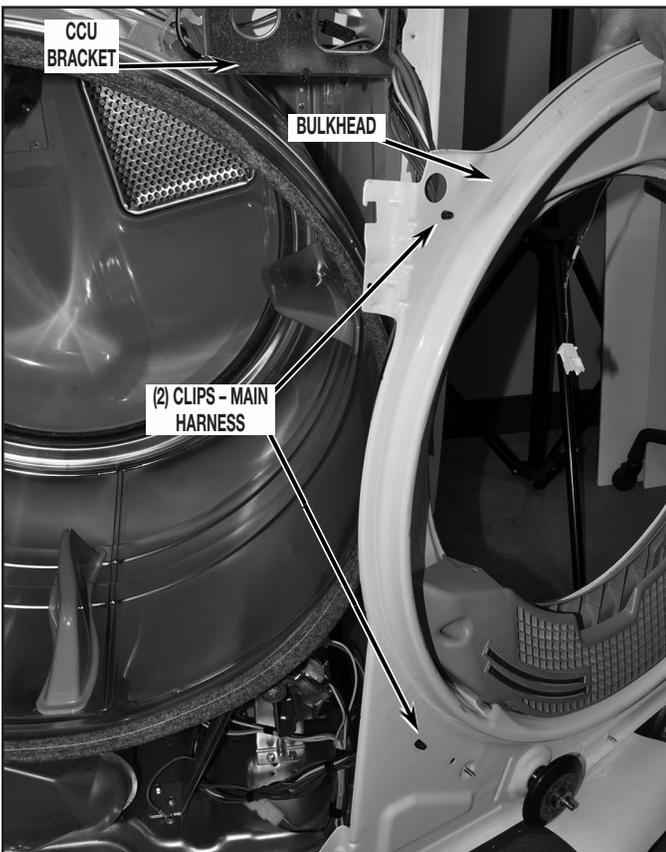

FIGURE 15
- Swing bulkhead assembly to side and remove two (2) harness clips to disconnect harness from bulkhead. See Figure 15.